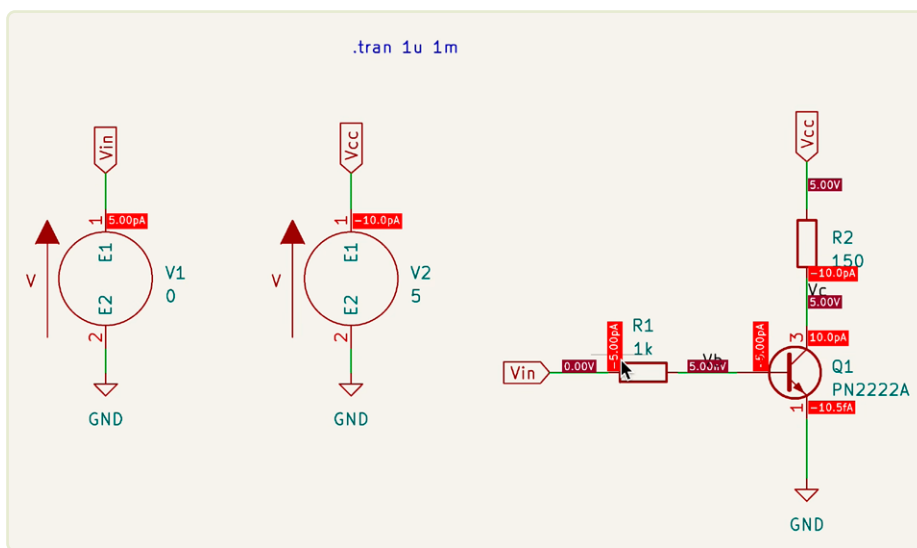

Figure 10: A new feature in KiCad 8 is the simulator labels in the schematic editor.
**Figure 10** shows the operating point simulation results displayed directly in the schematic editor within red labels. I found these improved simulation features and their integration between the simulator and the editor very useful. They reflect KiCad's commitment to continuously improving and advancing its capabilities to meet the evolving needs of its users.